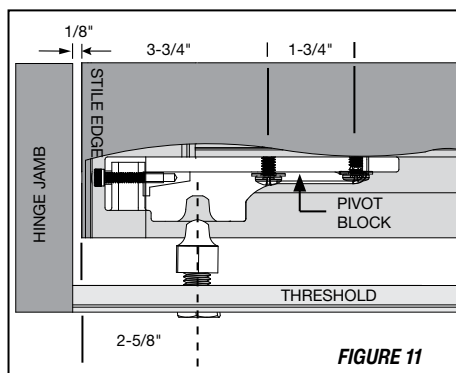

**FIGURE 12**
Assuming the pivot block has been factory installed, back off the (2) 1/4" X 20 truss-head screws and slide the block to center the pivot axis **FIGURE 12**.